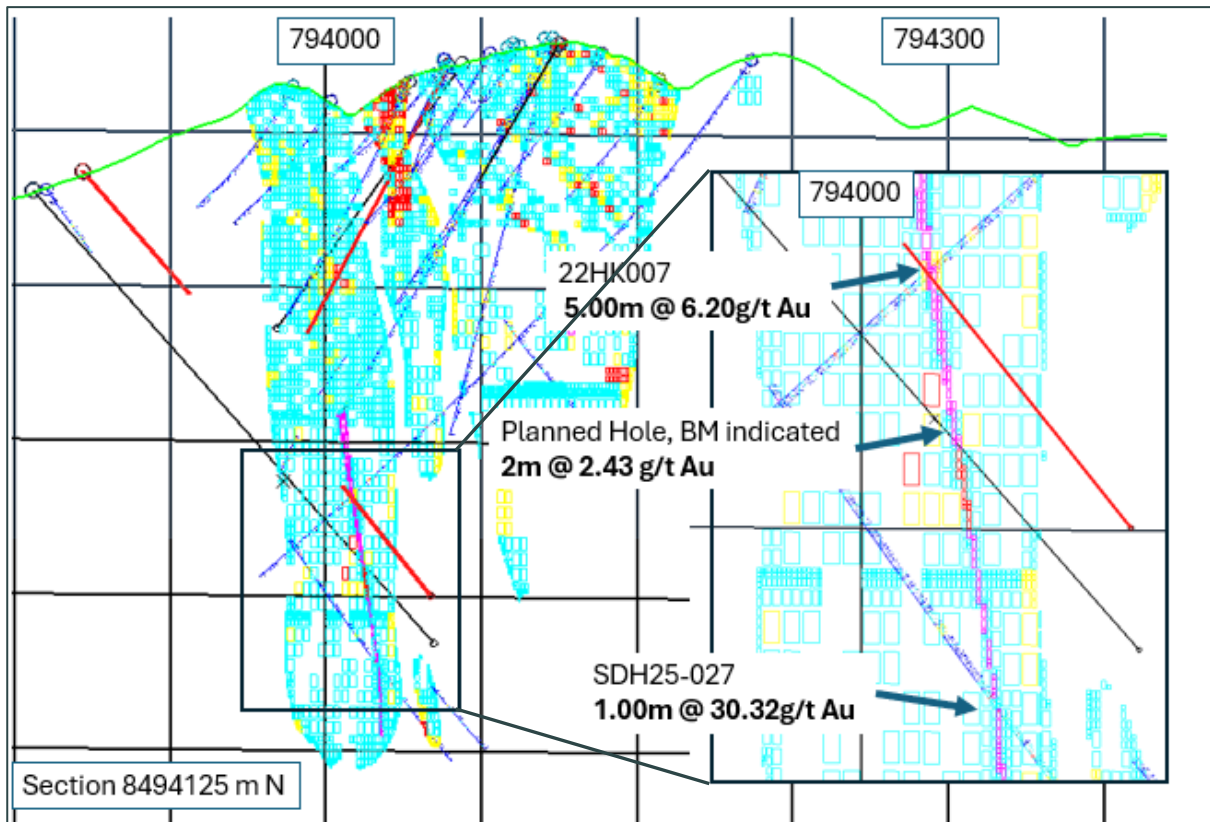

Figure 9: Inset of planned drilling on section 8494125 m N July MRE model update.
1. Infill the northern portion of the Link Zone to 50m x 50m spacing to ensure sufficient drill coverage within this high-grade area. See figure 9 for an example in which drilling is planned between 22HK007 and SDH25-027, which both indicate a much higher grade than modelled, due to drill density within the Link Structure. A number of similar holes have been planned to provide geostatistical support for the high grades intersected.